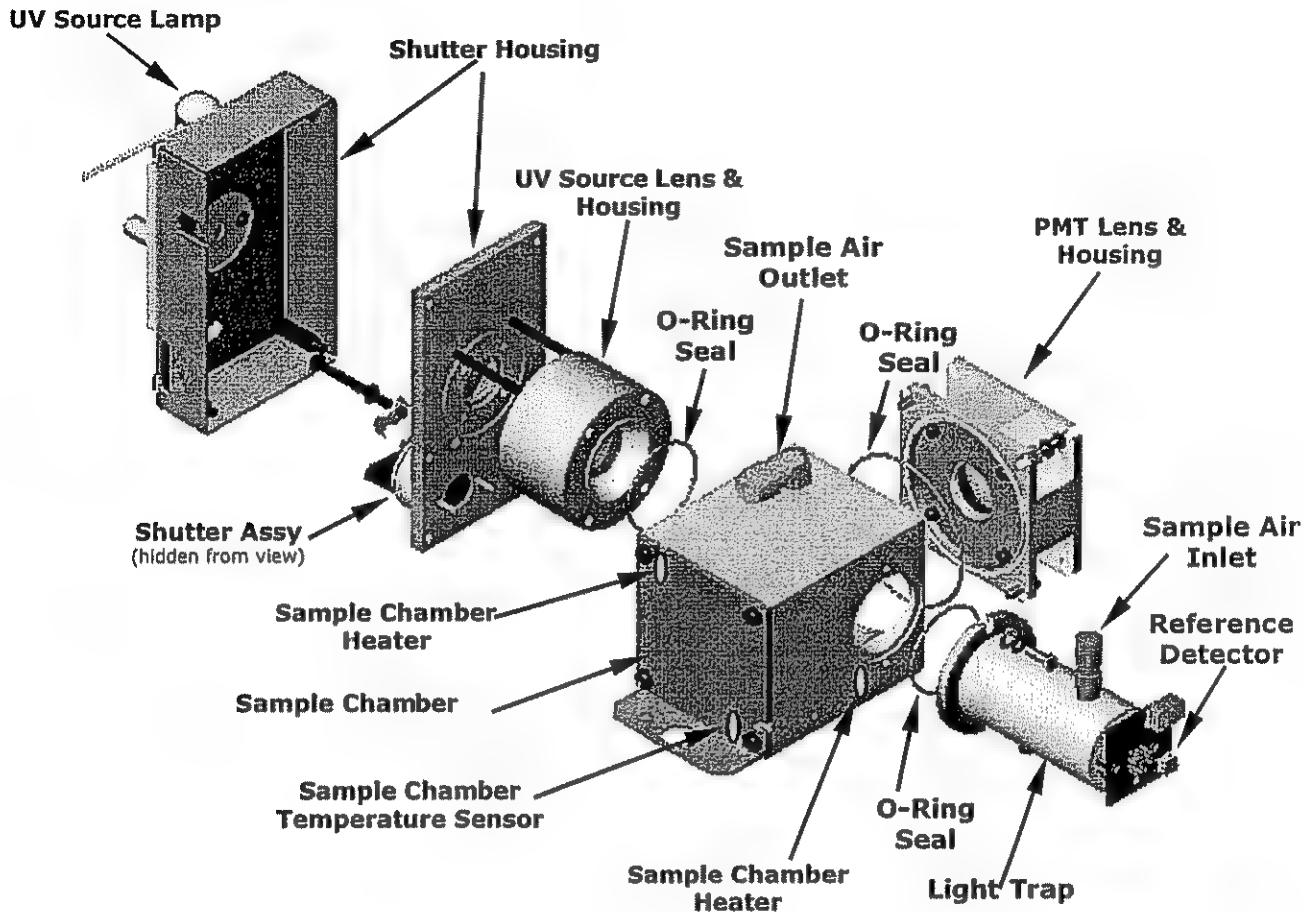

Figure 10-13: 6400E Sample Chamber
- Figure 10-13 shows an exploded view of the sample chamber assembly